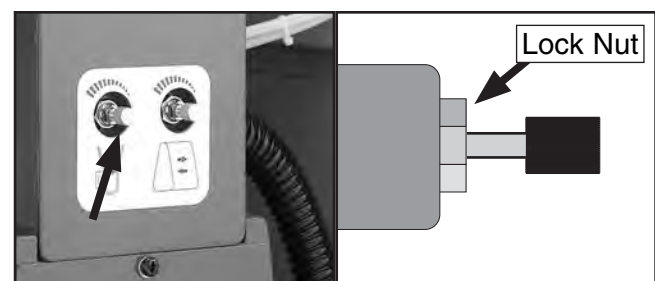

Figure 26. Airflow adjustment knob.
2. Loosen the lock nut on the airflow adjustment knob (**Figure 26**).
3. Turn the airflow adjustment knob (**Figure 26**) clockwise until the airflow is completely **OFF**. The upper roller should pivot to the right.
5. Tighten the lock nut (**Figure 26**) to secure the airflow adjustment knob.